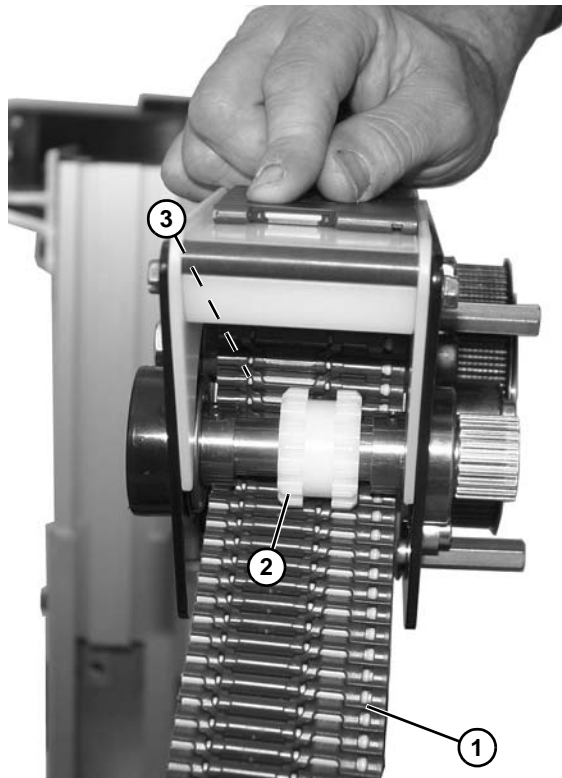

Figure 176
6. Guide belt (**Figure 176, item 1**) through idler assembly with belt routing under gear (**Figure 176, item 2**) and over wear tube (**Figure 176, item 3**).